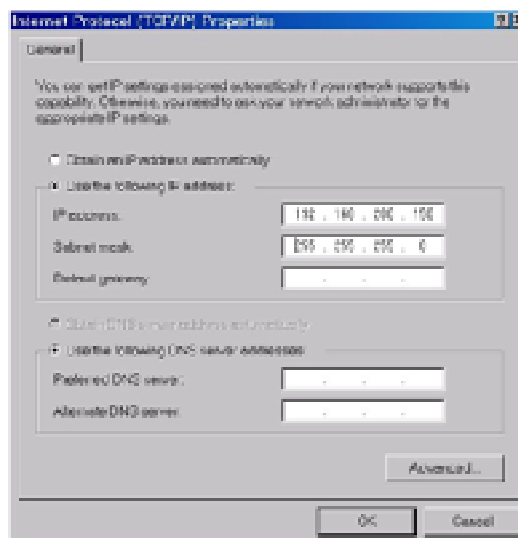

Fig. 3-7 – Modifying the IP code
- The window shown in Fig. 3-7 appears, in which you have to select *Use the following IP address*.
- Write the following number in the *IP address* field: 192 . 168 . 200 . 199. It is necessary that the last number of the series is different by 200 (in Fig. 3-7 it is 150).